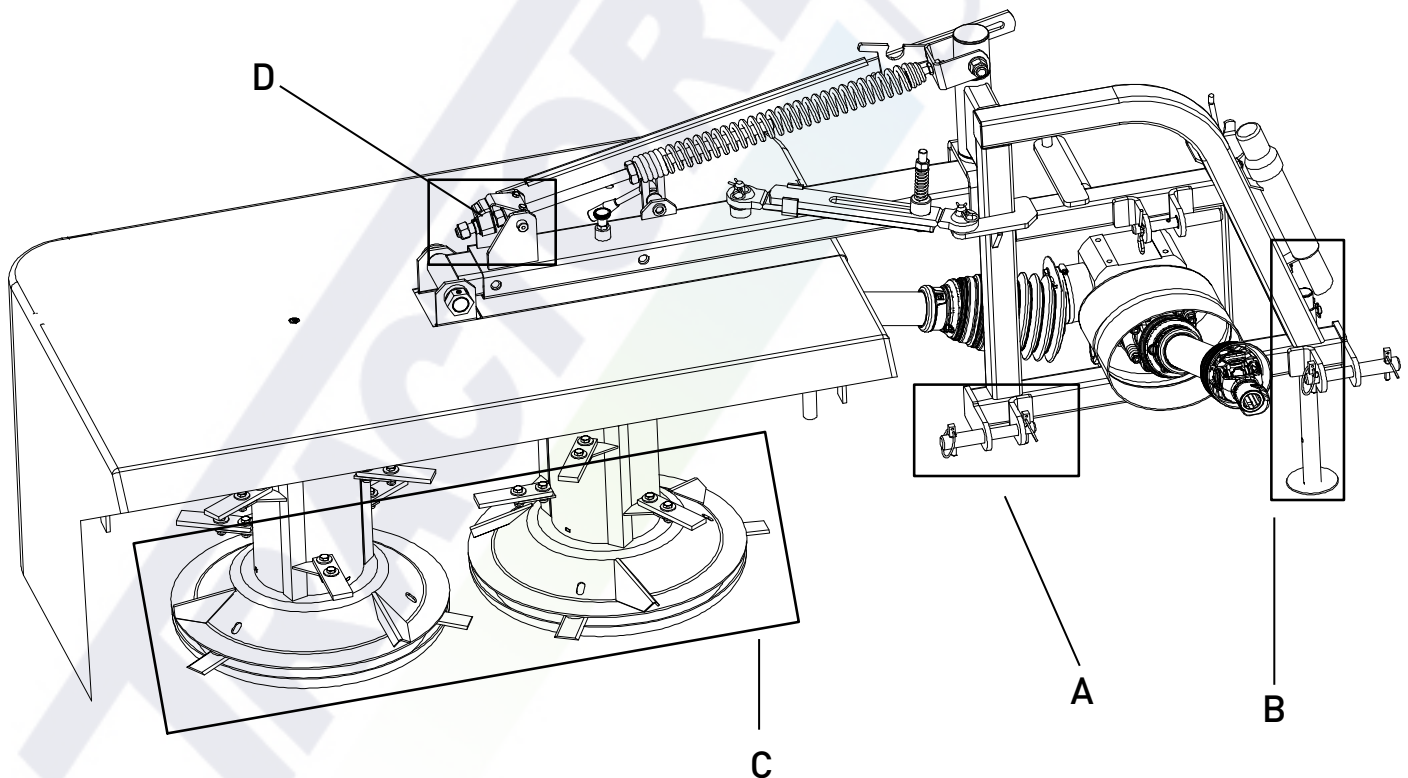

Figure 1 Sarracenia 130.
- In order to reduce the load of the machine on the ground and to be parallel to the ground adjust spring tension using their corresponding bolts. **(Point D Figure1).**
2. Rotate the shear pins to Cat. I or Cat. II depending on your tractor type. Connect the lifting bars of the tractor to the shear pins. **(Point A Figure 1)**
3. Lift the stand of the machine. **(Point B Figure 1)**
4. Connect the three point to the upper hitch link and adjust length so that the mower is parallel to the ground. **(Point C Figure 1)**